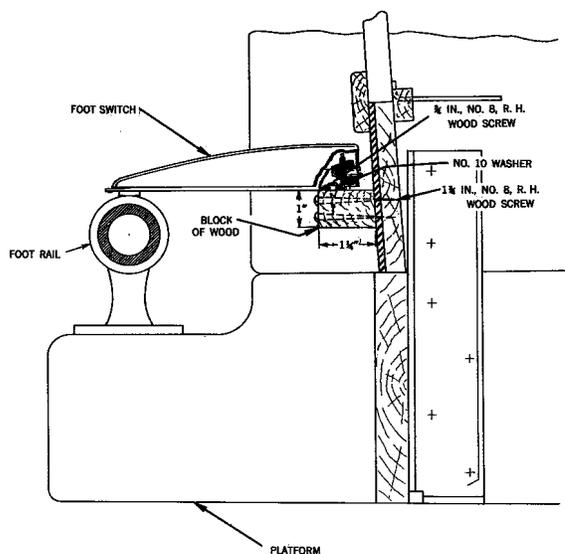

Fig. 4 — Mounting of Foot Switch in Installations Employing Platforms and Foot Rails
- (e) PBX equipped with footrail: Three 1-3/4 inch, No. 8 R.H. wood screws, two 3/4-inch No. 8 R.H. wood screws, and two No. 10 washers. See Fig. 4.
3.02 Typical locations for the equipment are shown in Fig. 4, 5, and 6.
3.03 Where footrails are provided on the PBX, the foot switch may be installed as shown in Fig. 4, using a block of wood measuring 2 by 1 by 3 inches. The rubber feet on the rear of the foot switch must be removed.